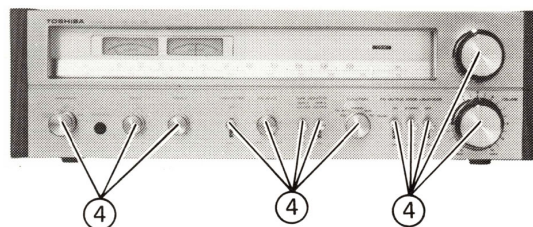

Figure 5
3. Remove the thirteen knobs ④. See figure 5.